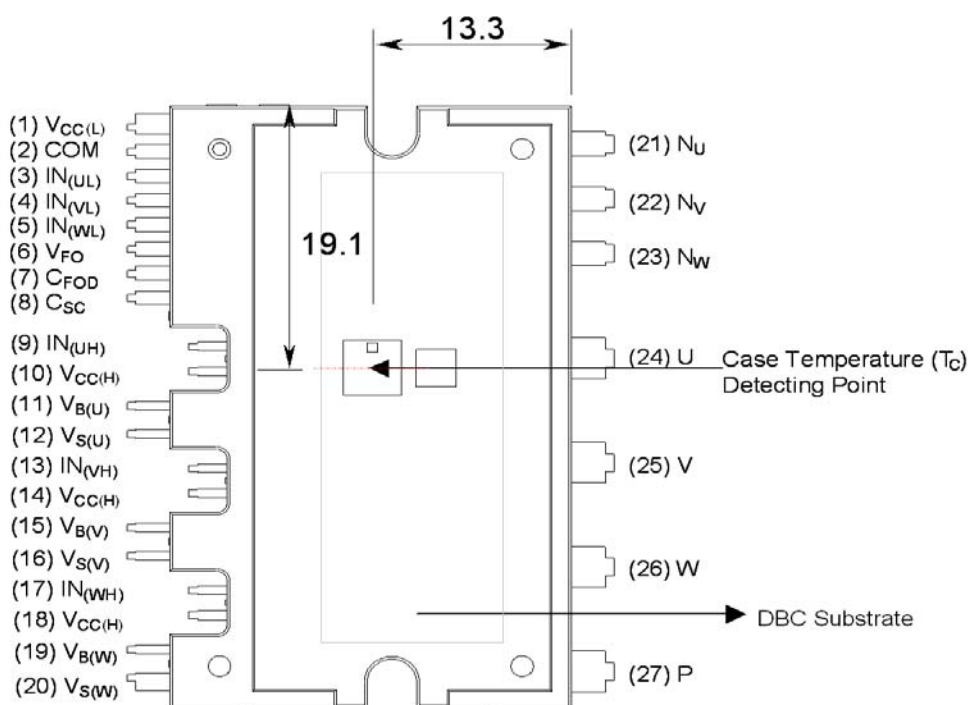

Figure 2. Top View
| T_C | Module Case Operation Temperature | $-40^\circ\text{C} \leq T_J \leq 150^\circ\text{C}$, See Figure 2 | -40 ~ 125 | $^\circ\text{C}$ |
2. For the measurement point of case temperature (T_C), please refer to Figure 2.